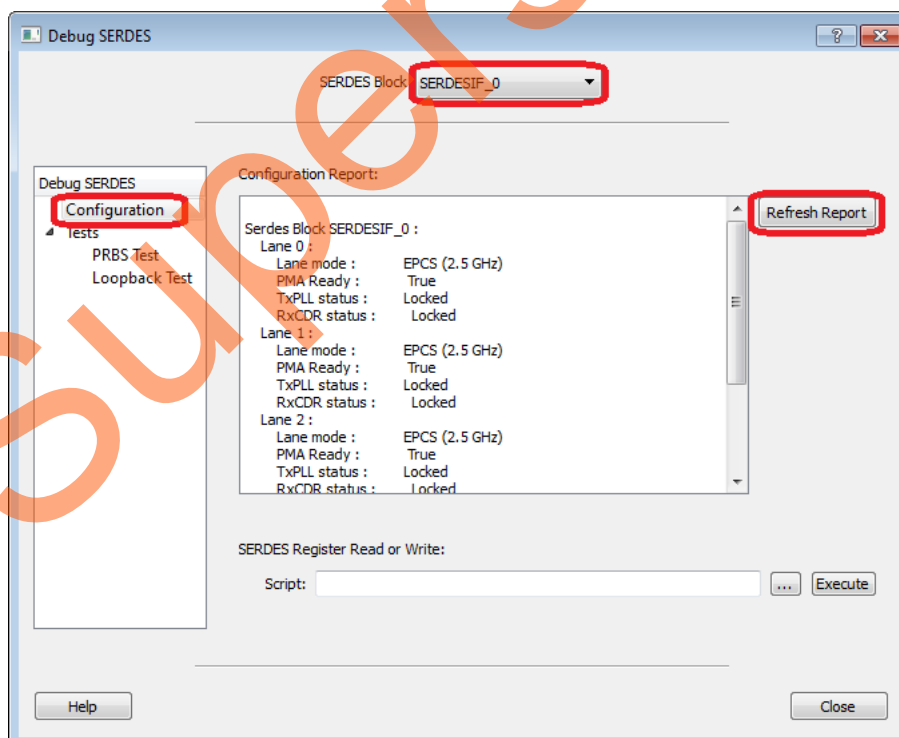

Figure 2-20 • SERDES Configuration Tab
2. The **Configuration** tab will auto-identify and populate which SERDESIF is used in the design and the lanes and how they are programmed and powered-up. The status of each lane is shown as well as the programmed lane mode. This example demonstrates the use of SERDESIF_0 block, as well as the lock status of the TXPLL and RXCDR. This window can be updated through the **Refresh Report** button, refer to Figure 2-20.